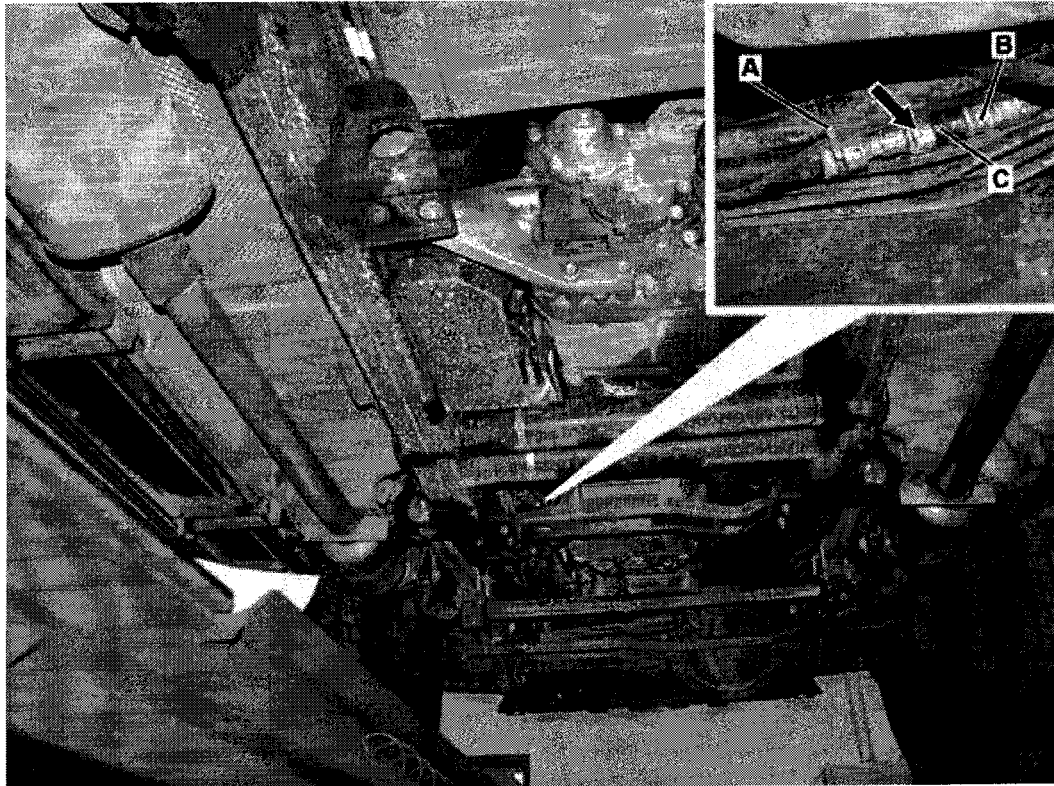
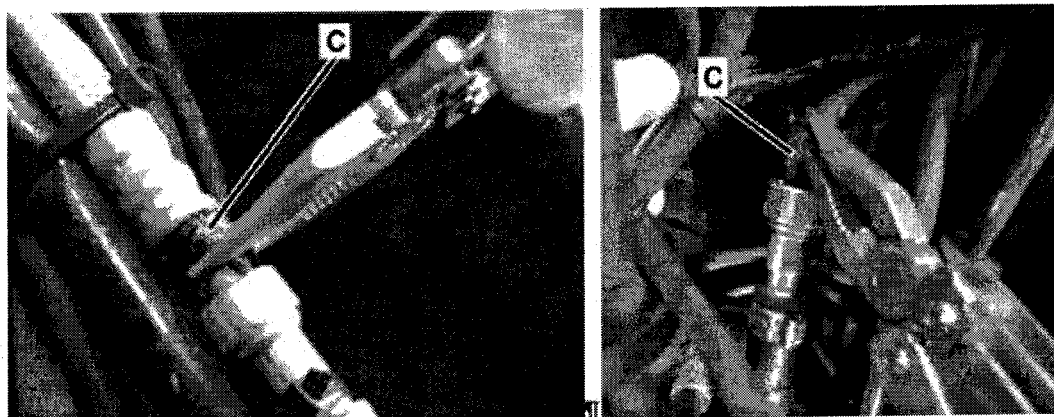
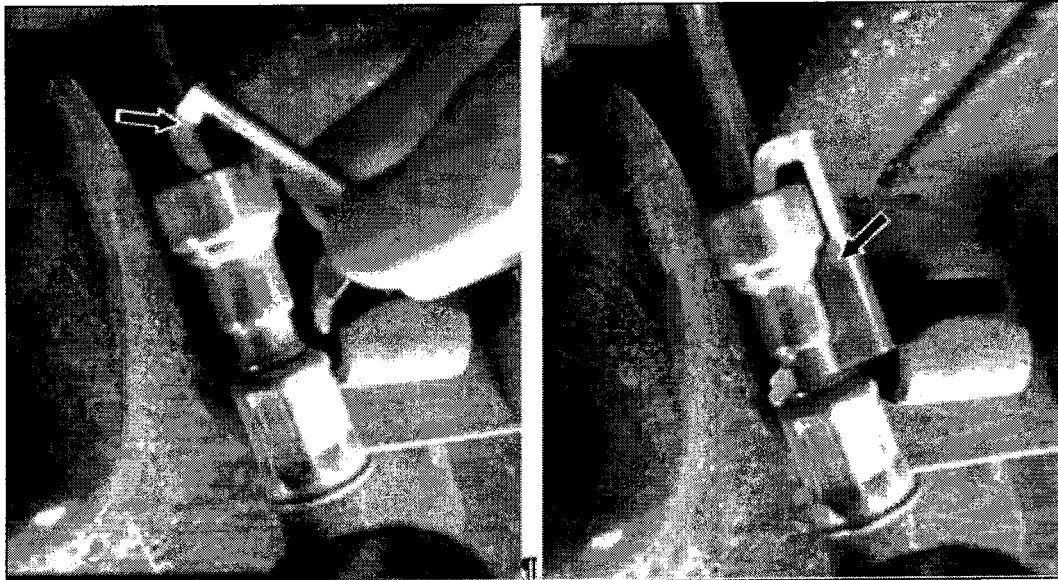

Figure 3 (Front of vehicle)
Figure 4
Figure 5
2. Remove release rings (C, Figures 3, 4) from fuel line connector (arrow)
- Remove cable tie (A, Figure 3)
- Push fuel line (B, Figure 3) and fuel line connector (arrow) together to ensure that they are fully engaged prior to proceeding with this procedure.
- Remove release rings (C, Figure 3, 4) from fuel line connector (arrow) using needle nose pliers and discard ring. (Refer also to Figure 4)
3. Install new fuel line clamps (arrows, Figure 5) onto fuel line connector then install new cable tie (A, Figure 3).